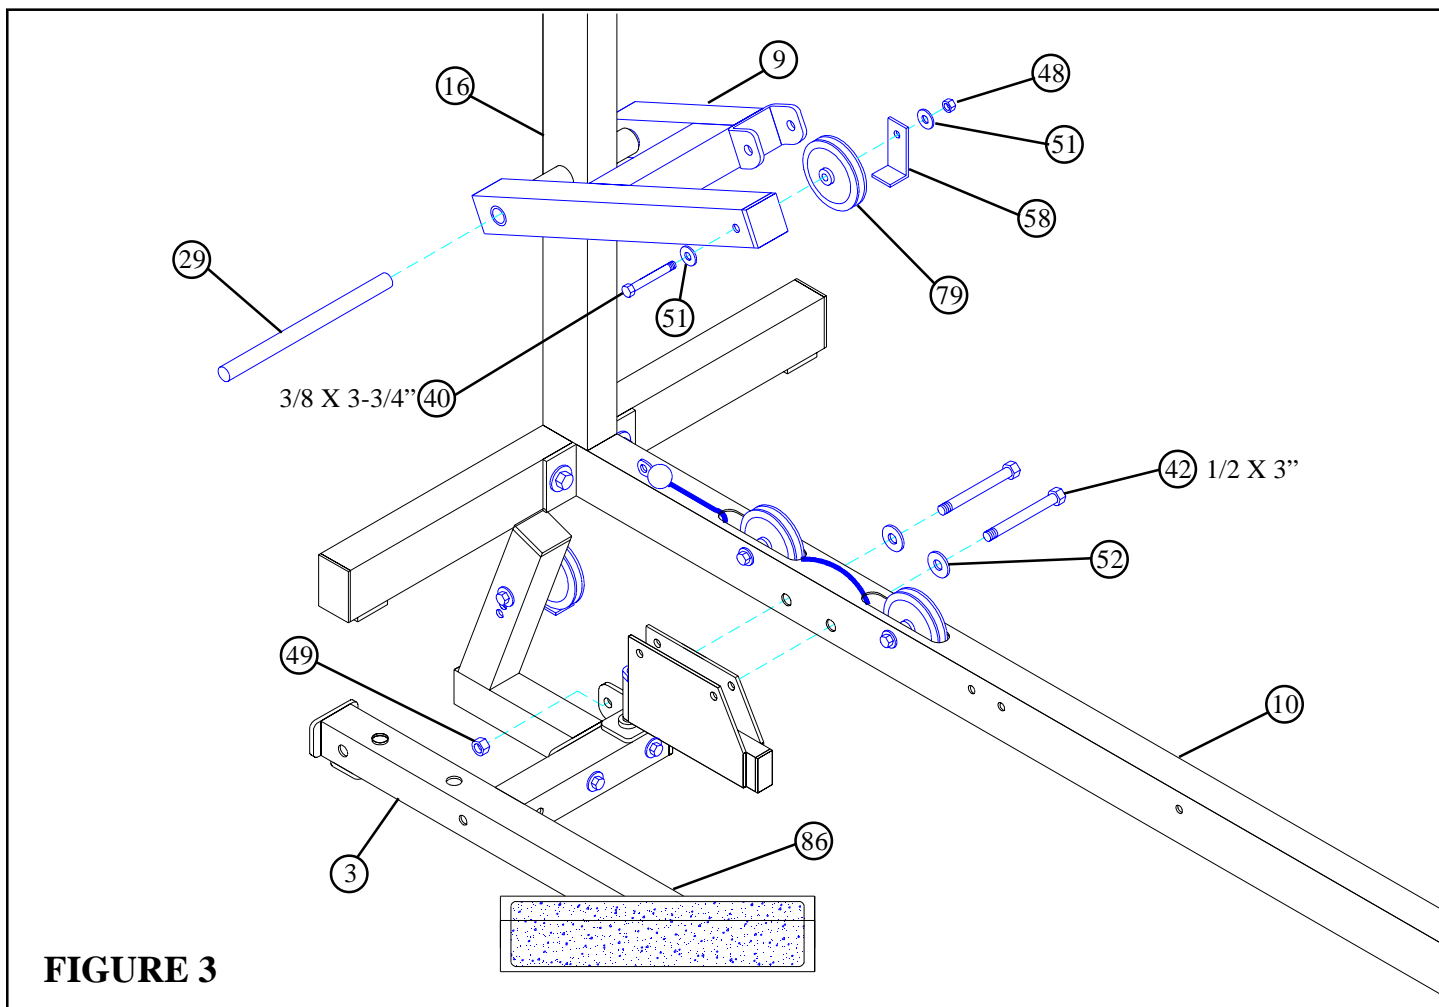

FIGURE 3
- Securely attach WEIGHT STACK BASE (3) to BASE (10) using two 1/2 X 3" BOLTS (42), two 1/2" WASHERS (52), and one 1/2" LOCKNUT (49).
- Slide one 3/4 DIA X 11" SHAFT (29) through PRESS ARM LEVER (9) & tube on REAR UPRIGHT (16). See FIGURE 3.
- Securely assemble one 3-1/2" PULLEY (79) to PRESS ARM LEVER (9) using one 3/8 X 3-3/4" BOLT (40), two 3/8" WASHERS (51), one 2-3/8" RETAINING CLIP (58), and one 3/8" LOCKNUT (48).